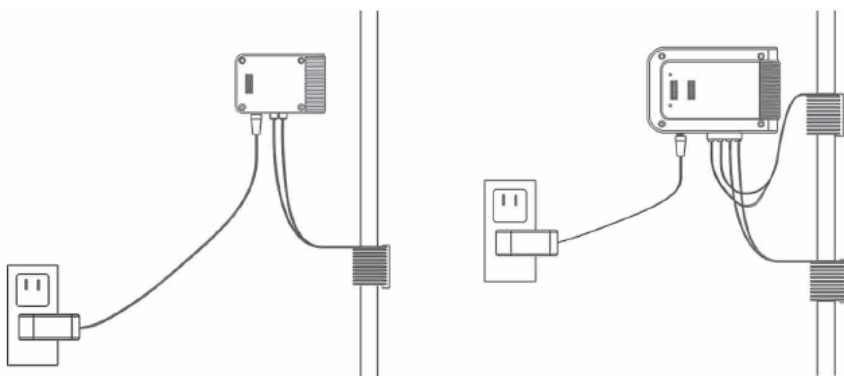

Fig. 7 - Connect the QCC and Power Supply to the Control Module
- Insert each end of the wire from the Quick Connect Coil to either of the spring clip receptacles (see Fig. 7) located on the Control Module. Note that polarity is not important.
- Attach the 12 Volt Power Supply Cord to the Control Module (see Fig. 7).